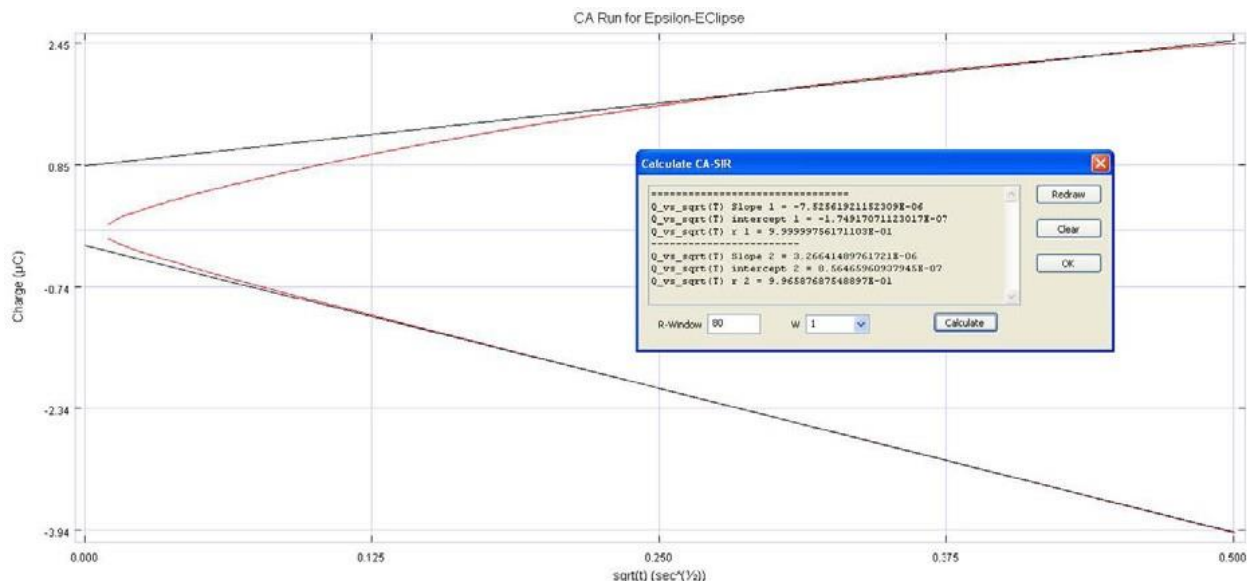

Figure 12 - Calculation of slope and intercept of linear plot
13. The Epsilon ECLipse™ software can calculate the slope and intercept of the linear **Q vs  $\sqrt{t}$**  plot when it is displayed. Selecting **Calculate CA-SIR** from the Analysis menu generates the information box shown in Figure 12. The lines used for the linear fitting are the dashed blue lines in Figure 12 (note that the first 20% of the data points are not used in the calculation, due to interference from the charging current and other experimental artifacts).